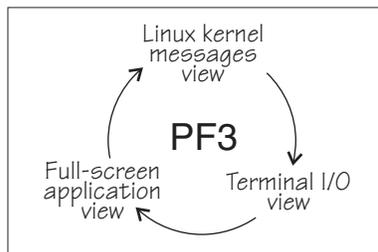

Figure 55. Switching views of the 3270 terminal device driver
The 3270 terminal device driver provides three different views. Use function key 3 (PF3) to switch between the views (see Figure 55).